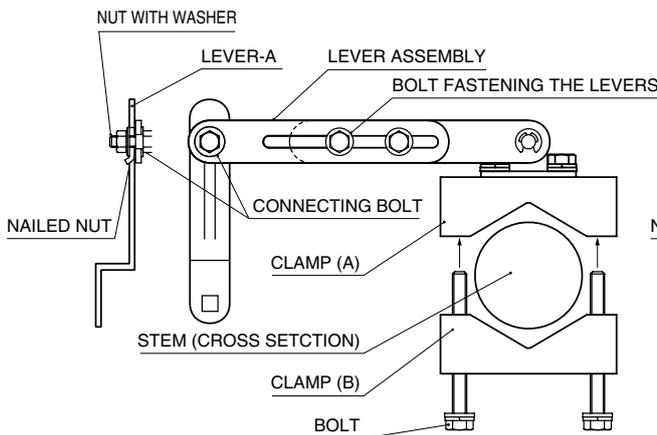

Figure 1. ATTACHING THE VOLK-A, B, B1
•VOLK-A, B, B1 (See Figure 1 below.)